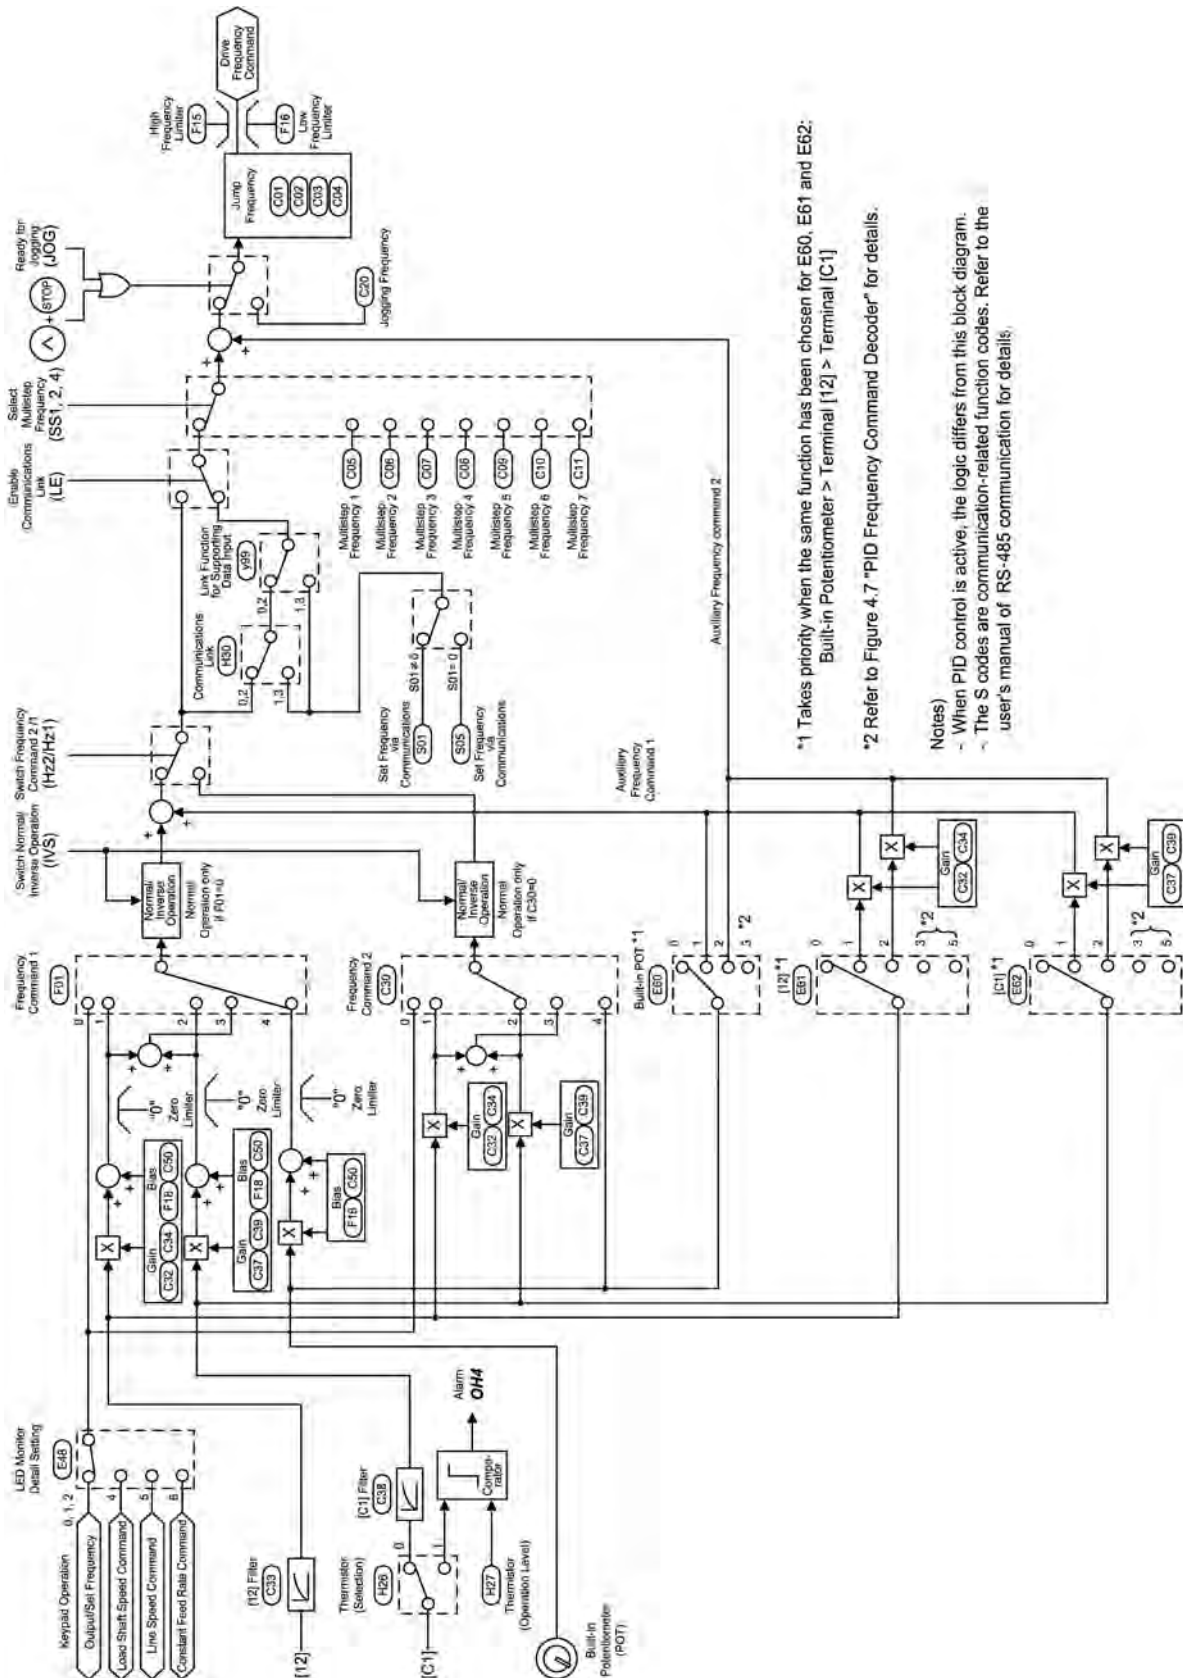

Figure 4.1 Block Diagram for Drive Frequency Command Generator
Figure 4.1 shows the processes that generate the final drive frequency command from the frequency settings given by various means and those switched/modified by function codes. If PID process control takes effect (J01=1 or 2), the drive frequency generation will differ from that shown in this diagram. (Refer to Section 4.8 "PID Frequency Command Generator.")
*2 Refer to Figure 4.1 "Frequency Command Generator"
- When the PID control is inactive, the logic differs from this block diagram. Refer to Figure 4.1 "Drive Frequency Command Generator."